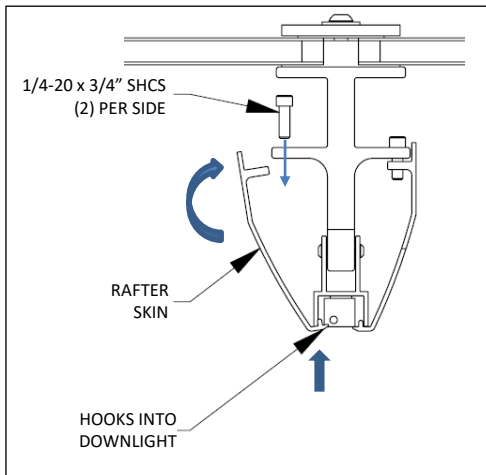

Fig. F10 – install rafter skins
7. Install left and right side rafter skins, with the sharper angle of the skin toward the front of the rafter. See Fig. F10. Rafter skins have a boss on the bottom flange that hooks into the downlight, see Fig. F10. Hook the bottom of the skin into position and then rotate the top of skin up to the rafter beam. Using a 3/16" hex key, install (2) 1/4-20 x 3/4" socket head cap screws, located in hardware pack #62599. Tighten until gap between light and rafter skin is gone and rafter skin does not rattle. Do not overtighten screws.